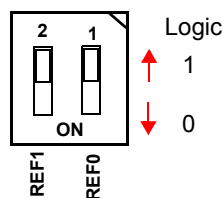

FIGURE 1. TYPICAL U2 DEFAULT SETTING 11 (1.500V)
- Set the “REF Selection” DIP switch (U2) to 11 corresponding to DAC = REF = 1.5V. Figure 1 details the typical default configuration for U2 when the board is received. In this default setting, the evaluation board is set for a reference voltage of 1.5V.